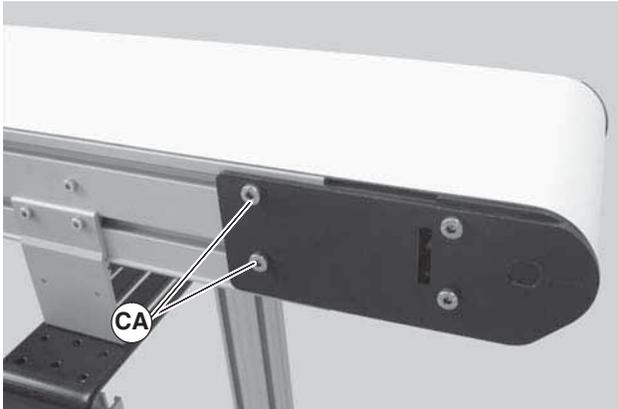

Figure 46
1. On the side of conveyor which the belt is tracking towards, loosen the head plate fastening screws (Figure 46, item CA).
3. Re-tighten the head plate fastening screws (Figure 46, item CA) with a 5 mm hex-key wrench to 146 in-lb (16.5 Nm).